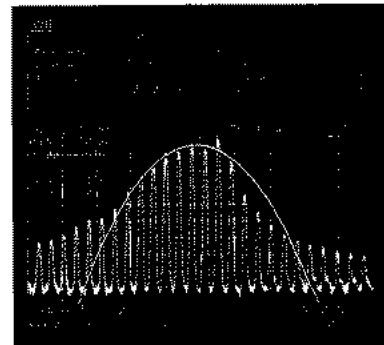

Figure 4. FP measurement
The Fabry-Perot (FP) laser measurement function measures the spectral full-width half-maximum or envelope bandwidth, center wavelength, mode spacing, and total power of the laser. The Gaussian or Lorentzian curve fit to your laser may also be displayed (see Figure 4). The DFB laser measurement function provides center wavelength, automatic side-mode suppression ratios, peak power, and stop-band characterization.